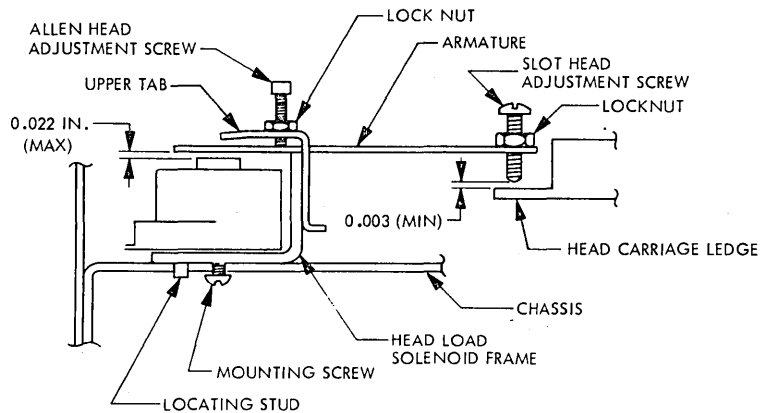

Figure 4-1. Head Load Solenoid Adjustment
Proper head retraction distance and correct load time for the magnetic head is assured by performing the following adjustment procedure. Refer to Figure 4-1 in conjunction with this procedure.
- (1) Perform the Compliance Check, Paragraph 5.1.11.2.
- (2) Bend the upper tab on the relay frame upwards and clear of any armature motion (Figure 4-1), if not already clear.
- (3) Back off the Allen-head adjustment screw to allow maximum armature travel (Figure 4-1).
- (1) With disk drive in a horizontal position, apply power to the disk drive and install a work diskette.
- (2) Perform a track-0 seek and activate the head load solenoid.
- (3) Insert a 0.005-inch-thick feeler gauge between the plastic slot-head adjustment screw on the end of the armature and the ledge of the head carriage (Figure 4-1).
- (4) Loosen the locknut and rotate plastic slot-head adjustment screw until it contacts feeler gauge.
- (5) Secure plastic adjustment screw with locknut and remove feeler-gauge blade. Recheck gap.
- (6) Perform a seek to track 76 and observe gap between the end of the plastic screw on the armature and the head ledge on carriage. Maintain minimum gap of 0.003 inch.
- (7) Readjust plastic slot-head adjustment screw on armature, if necessary, to maintain minimum gap of 0.003 inch (Figure 4-1).